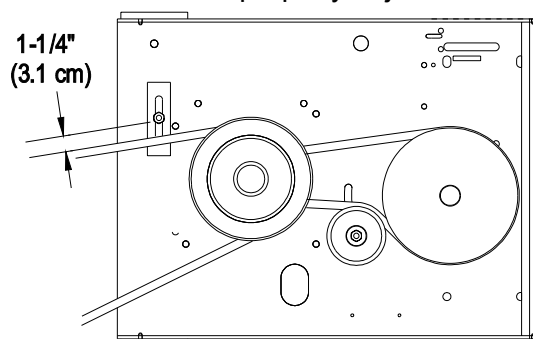

FIGURE 23
- Check belt guide under the engine deck for proper adjustment (See Figures 23 and 24). Adjust as necessary.